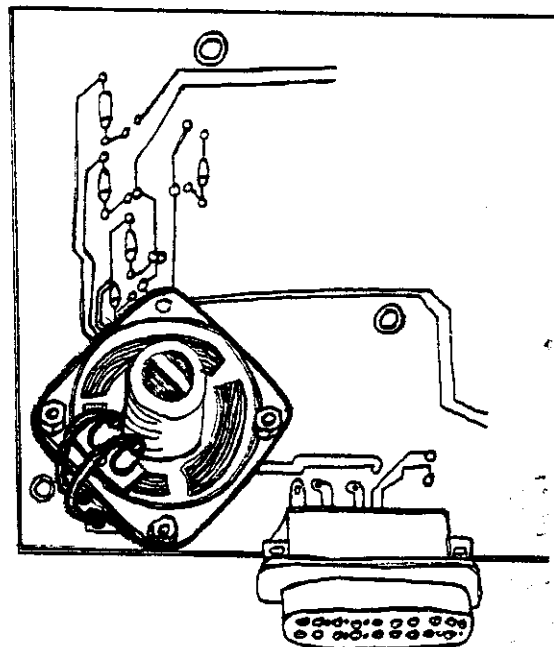

FIGURE 6: Speaker Installation
- () 45. Position the speaker on the SOLDER side of the PC board as indicated in Figure 6. To install the speaker onto the board, insert a 6-32x3/8" screw in each of the three holes indicated in the figure. Each screw is inserted from the top (COMPONENT SIDE) of the board, through two fiber washers, through the speaker, and is secured with an internal star lockwasher and 6-32 nut. Tighten the speaker mounting screws.
- () 46. Solder the free end of each wire installed in Step 44 onto the eyelets indicated in Figure 6.